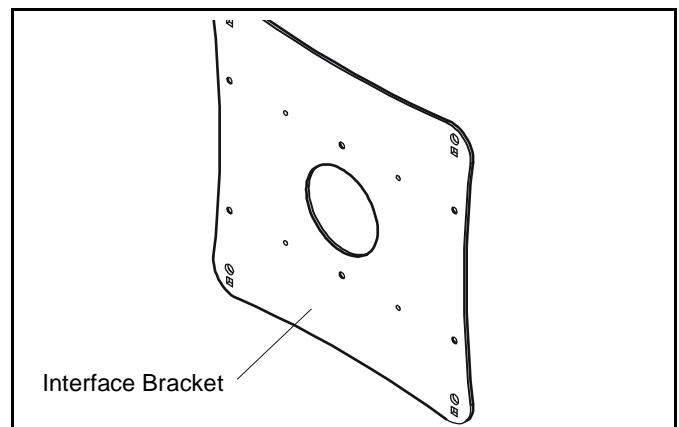

Figure 3
5. If an interface bracket was used in this installation, remove the screws attaching the interface bracket to the display. Replace with the same size button head security screws included in this kit (See Figure 3).